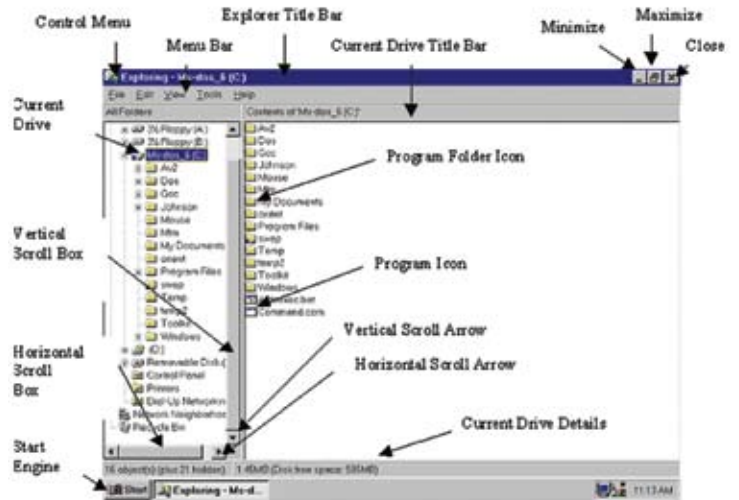

Figure 2.2
You need to know what to call the various parts and/or contents of a window to enable you to efficiently use Windows XP and the A+CAD program. Figure 2.2 identifies the windows parts. Locate each window part in Figure 2.2 and study the definition in the following list before continuing.
- Refer to Figure 2.2 for help in locating the Control-menu icon.